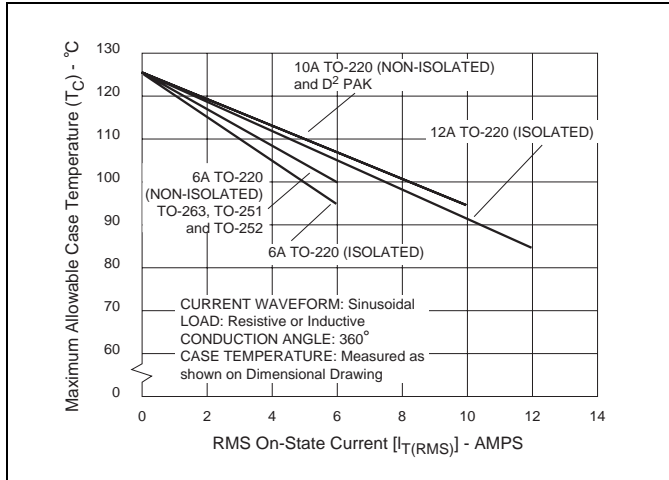
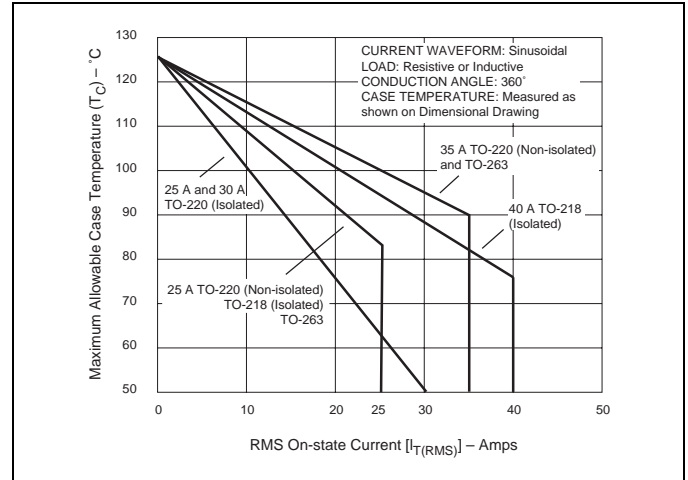
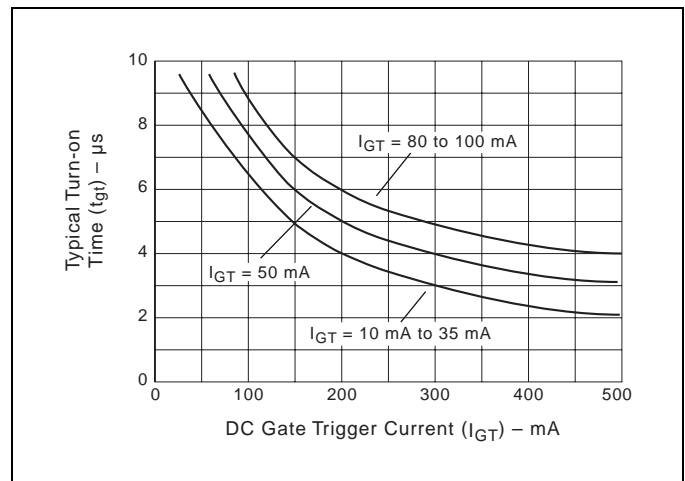

Figure E4.1 Maximum Allowable Case Temperature versus On-state Current (6 A to 12 A)
Figure E4.4 Maximum Allowable Case Temperature versus On-state Current (25 A to 40 A)
Figure E4.12 Turn-on Time versus Gate Trigger Current (Typical)
- (1) For either polarity of MT2 with reference to MT1 terminal
- (2) For either polarity of gate voltage (VGT) with reference to MT1 terminal
- (3) See Gate Characteristics and Definition of Quadrants.
- (4) See Figure E4.1 through Figure E4.4 for current rating at specific operating temperature and Figure 4.16 for free air rating (no heat sink).
- (10) See Figure E4.12 for  $t_{GT}$  versus  $I_{GT}$ .
- (11) See package outlines for lead form configurations. When ordering special lead forming, add type number as suffix to part number.
- (12) Initial on-state current = 400 mA dc for 16 A to 40 A devices and 100 mA for 6 A to 12 A devices.
- (13) See Figure E4.1 through Figure E4.4 for maximum allowable case temperature at maximum rated current.
- (14) Pulse width  $\leq 10 \mu s$ ;  $I_{GT} \leq I_{GTM}$
- (15) For 6 A to 12 A devices,  $R_L = 60 \Omega$ ; 16 A and above,  $R_L = 30 \Omega$
- (16) 40 A pin terminal leads on K package can run 100 °C to 125 °C.
- (17) Alternistor does not turn on in Quadrant IV.
- (18)  $T_C = T_J$  for test conditions in off state
- (19)  $I_{GT} = 200 \text{ mA}$  for 6 A to 12 A devices and 500 mA for 16 A to 40 A devices with gate pulse having rise time of  $\leq 0.1 \mu s$ .
- (20) Minimum non-trigger  $V_{GT}$  at 125 °C is 0.2 V.